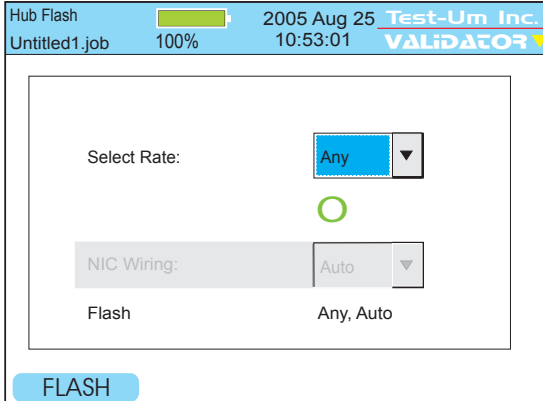

Figure 5.8 Hub Flash Test
2. From the drop down menu, select a specific data rate or Any if you wish to have the hub and Validator-NT auto negotiate the speed. (Figure 5.8)